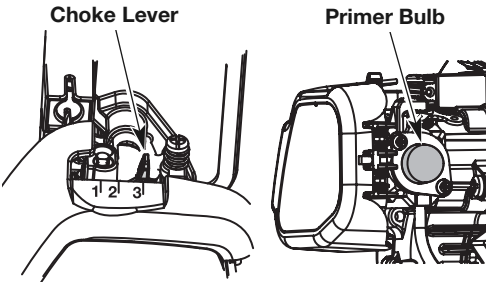
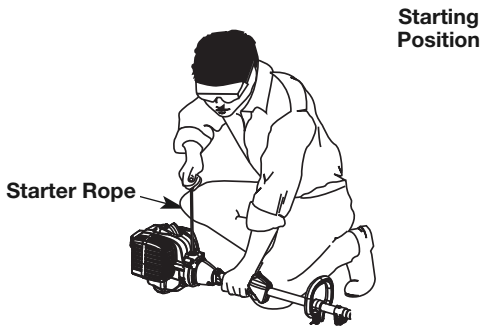

Fig. 8
Fig. 9
WARNING: Avoid accidental starting. Make sure you are in the starting position when pulling the starter rope (Fig. 9). To avoid serious injury, the operator and unit must be in a stable position while starting.
- Fully press and release the primer bulb 10 times, slowly. Some amount of fuel should be visible in the primer bulb and fuel lines (Fig. 8). If fuel can not be seen in the bulb, press and release the bulb until fuel is visible.
- Place the choke lever in **Position 1** (Fig. 8).
- Crouch in the starting position (Fig. 9). Squeeze the throttle control lever. Pull the starter rope 5 times.
- Place the choke lever in **Position 2** (Fig. 8)
- Continue squeezing the throttle control, move the choke lever to **Position 3** (Fig. 8) and continue warming the engine for an additional 60 seconds. The unit may be used during this time.
IF... the engine hesitates, return the choke lever to **Position 2** (Fig. 8) and continue warm-up.
- Fully press and release the primer bulb 10 times, slowly. Some amount of fuel should be visible in the primer bulb (Fig. 8). If fuel cannot be seen in the bulb, press and release the bulb until fuel is visible.
- Move the choke lever to **Position 1** (Fig. 8).
- Crouch in the starting position (Fig. 9). Place the electric starter or power start bit into the back of the unit. Refer to the Operation section of the Electric Starter or Power Start Bit operator’s manual.
- Squeeze the throttle control lever. Press and hold the electric starter or drill ON (I) button for 2 seconds.
- Move the choke lever to **Position 2** (Fig. 8).
- Squeeze the throttle control lever, press and hold the electric starter or drill ON (I) button for 2-second intervals until the unit starts.
- Continue squeezing the throttle control, move the choke lever to **Position 3** (Fig. 8) and run the unit for an additional 60 seconds. The unit may be used during this time